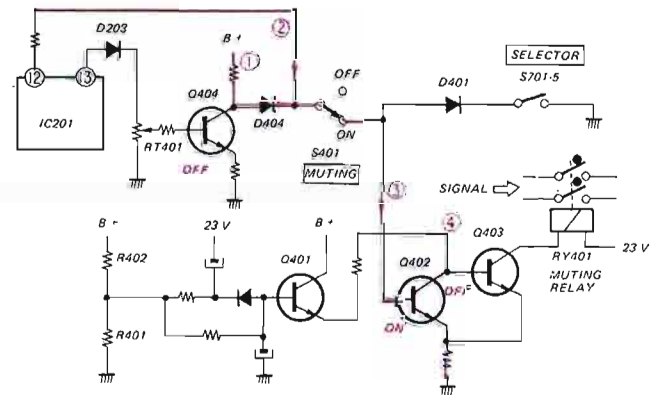
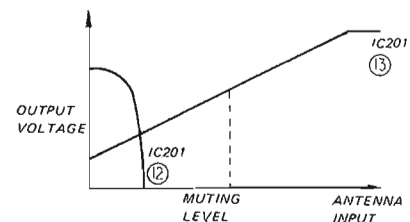
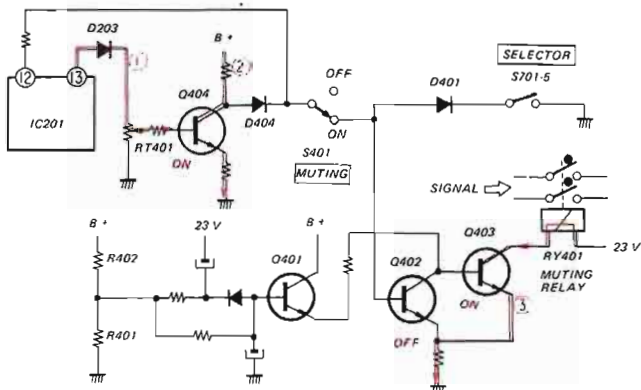
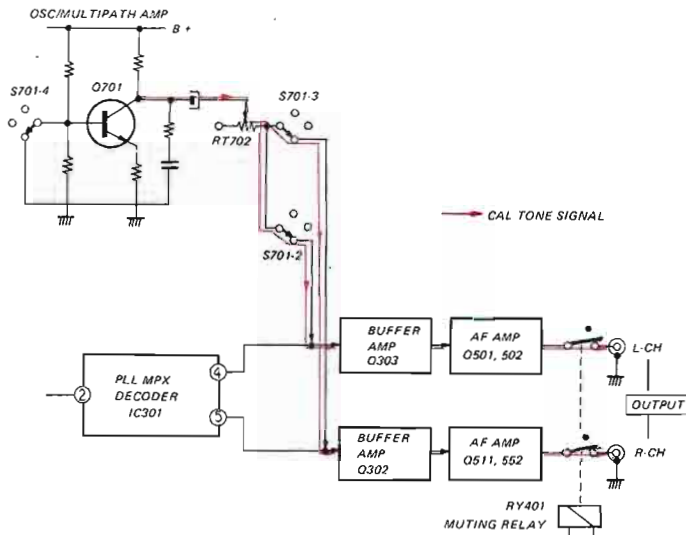

Fig. 1-7
Fig. 1-8
Fig. 1-9
Fig. 1-10
1) When receiving no signal (MUTING switch ON) (see Fig. 1-7 and Fig. 1-8)
With no voltage appearing at terminal ⑬ of IC201, Q404 will turn OFF. But a voltage will appear at terminal ⑫, and this will combine with the Q404 collector voltage (see Fig. 1-8) to be applied to the base of Q402. Q402 will thus turn ON, and Q403 will turn OFF, thereby stopping the muting relay current. This relay will therefore energized to cut off the output of any signals (see routes ① to ④).
2) When a signal whose level exceeds the muting level is applied to the antenna terminals (see Fig. 1-8 and Fig. 1-9)
Since a voltage will appear at terminal ⑬ of IC201, Q404 will turn ON. But there will be no voltage appearing at terminal ⑫ of this IC (see Fig. 1-8). Therefore, Q402 will turn OFF (with no voltage applied to its base), and Q403 will turn ON, resulting in a current flowing through the muting relay. This relay will thus energized and the audio signal will be applied to the output terminals (see routes ① to ③).
3) When the SELECTOR switch is switched over to the CAL TONE position (see Fig. 1-9 and Fig. 1-10)
5) Muting at detuning a station (see Fig. 1-7)